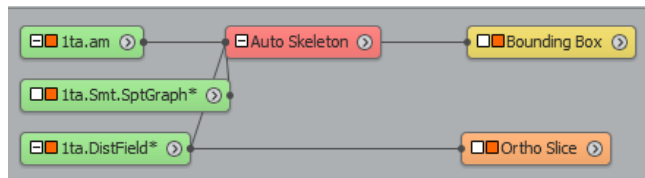

Figure 7.46: Visualization of the Distance Map and the Associated Project View
5. Attach an *Ortho Slice* to the data object *Ita.DistField*. The result may look like Figure 7.46.